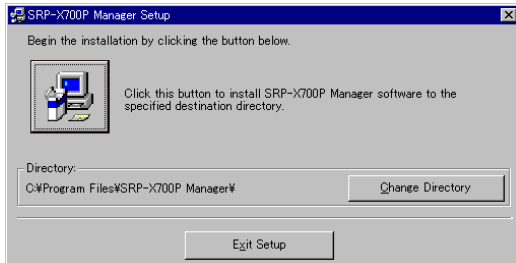

Fig. 1
- ② The SRP-X700P Manager installation screen appears.
- ③ When the screen [Welcome to the SRP-X700P Manager installation program] appears, click OK.
- ④ When the screen [Begin the installation by clicking in the button below] appears, click the Setup icon on the top left of the screen. (Fig. 1)